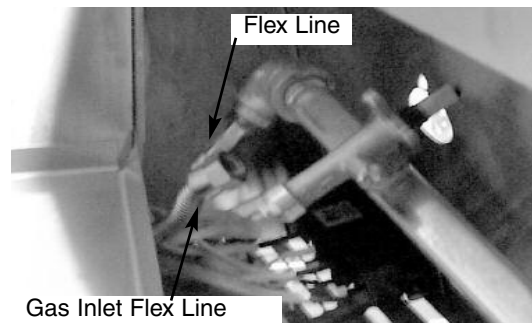

Fig 17
16. Disconnect the right side flex line from the manifold using the adjustable wrench. This will free up the right side of the manifold. (See Fig. 17)
19. Reattach the flex lines on the right and left sides of the grill to the new manifold using the adjustable wrench. (See Fig 17 & 15, on previous page)